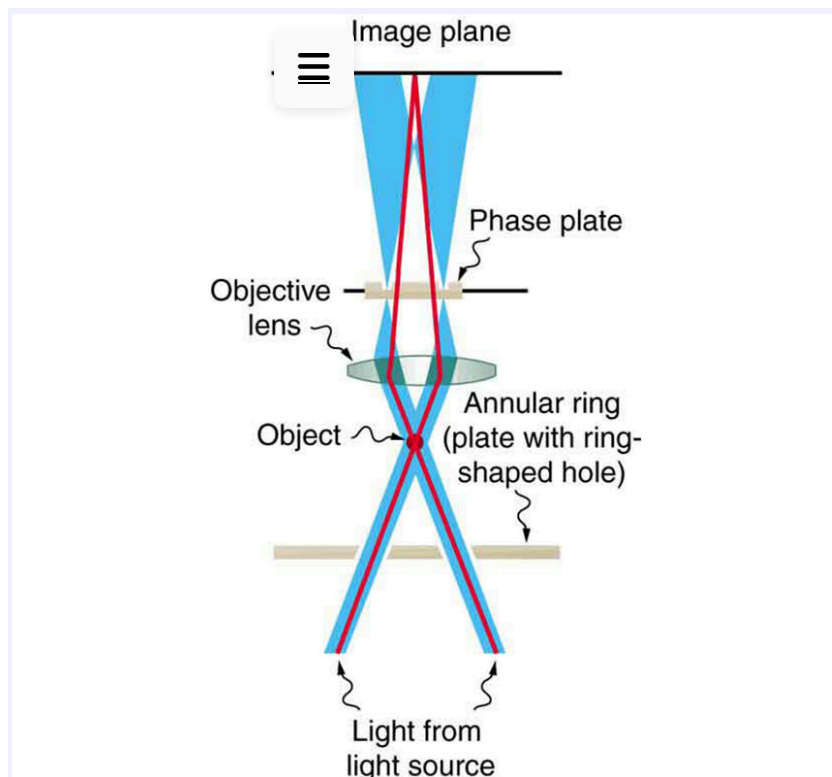

Figure 3: Simplified construction of a phase-contrast microscope.
1. [Figure 3] shows the basic construction of a phase-contrast microscope. Phase differences between light passing through the object and background are produced by passing the rays through different parts of a phase plate (so called because it shifts the phase of the light passing through it). These two light rays are superimposed in the image plane, producing contrast due to their interference.